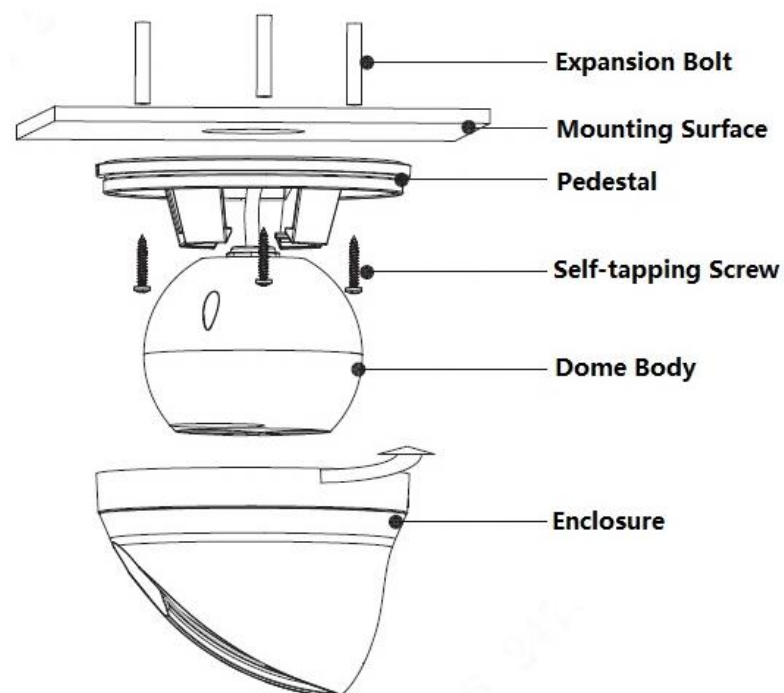
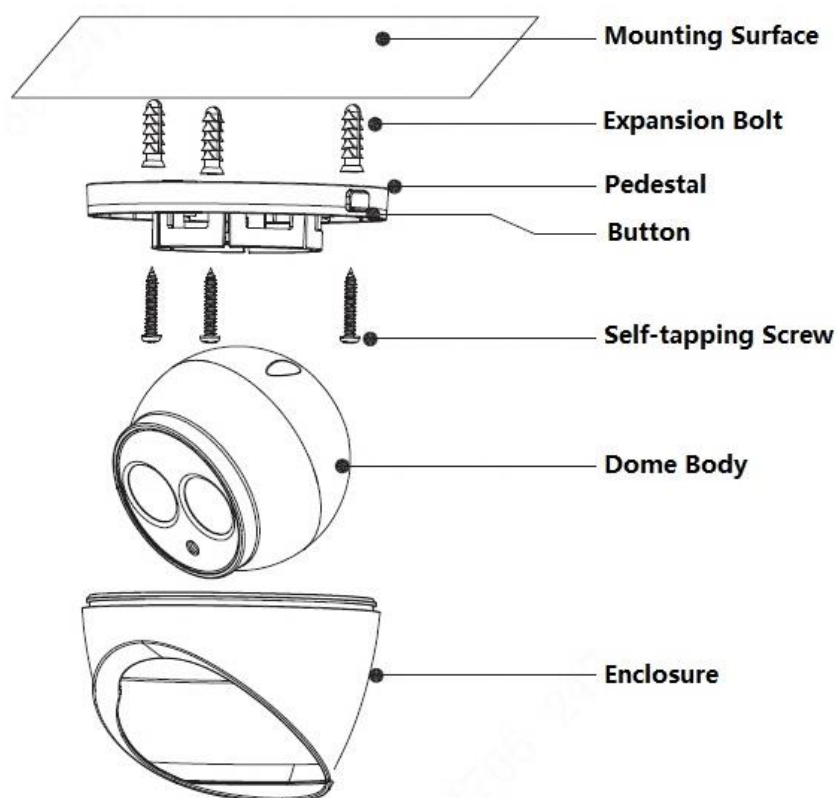
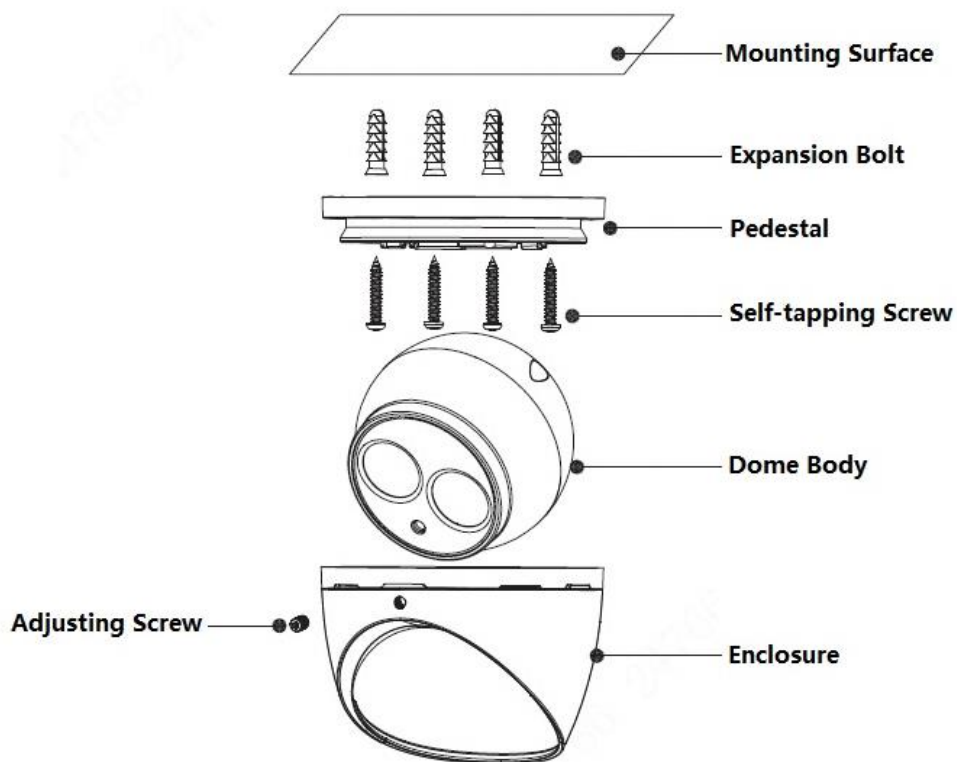

Figure 2-2
Figure 2-3
Figure 2-4
- The installation figures are for reference only; please refer to Figure 2-2, Figure 2-3 and Figure 2-4 for reference according to the actual product.
- As for the device shown in Figure 2-2, rotate the enclosure anticlockwise and then dismantle the device.
- AS for the device shown in Figure 2-3, the steps of dismantling device are shown as follows.
- As for the device shown in Figure 2-4, loosen the adjusting screw and pull the enclosure downward to separate pedestal from enclosure, finally the device is taken apart.
- As for the device shown in Figure 2-2, install the enclosure back to pedestal; rotate the enclosure clockwise to complete device assembly.
- As for the device shown in Figure 2-3, install the enclosure back to pedestal; push the enclosure upward to complete device assembly.
- As for the device shown in Figure 2-4, install the enclosure back to pedestal; push the enclosure upward and tighten the adjusting screw firmly to complete device assembly.